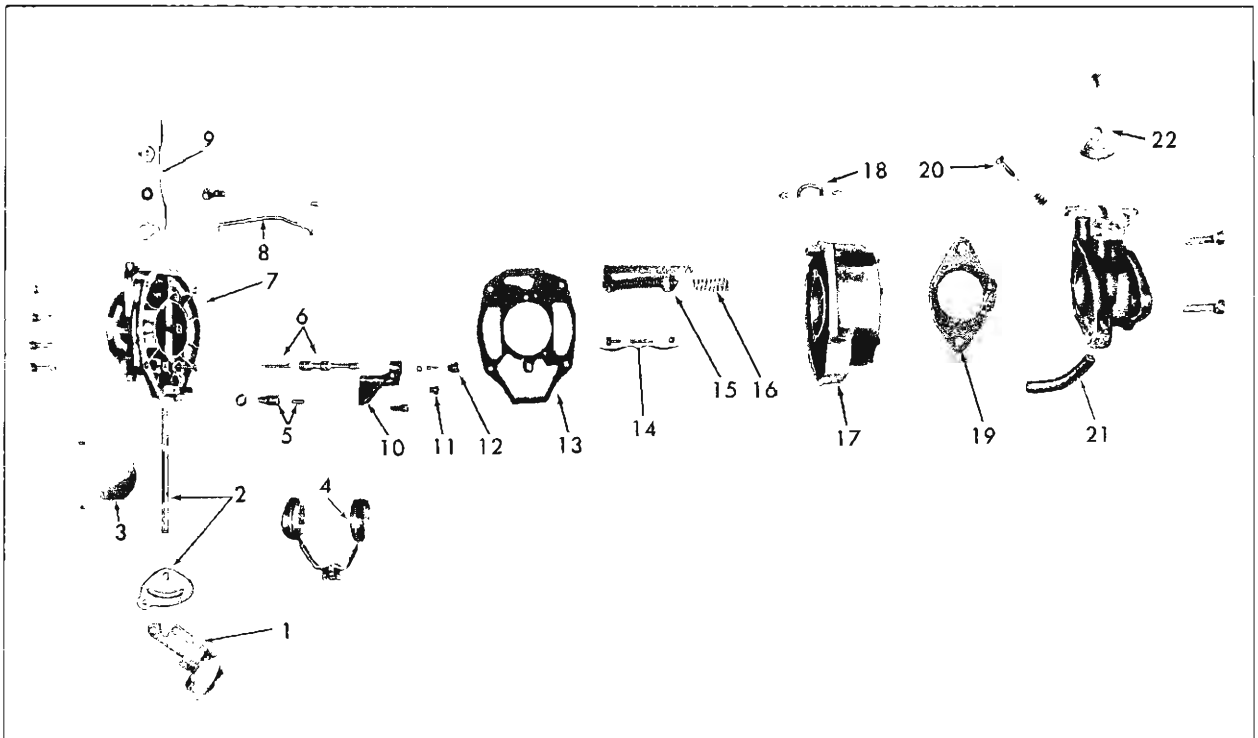

Fig. 13—Carburetor Disassembled
- 18. Figure 13 illustrates carburetor completely disassembled.